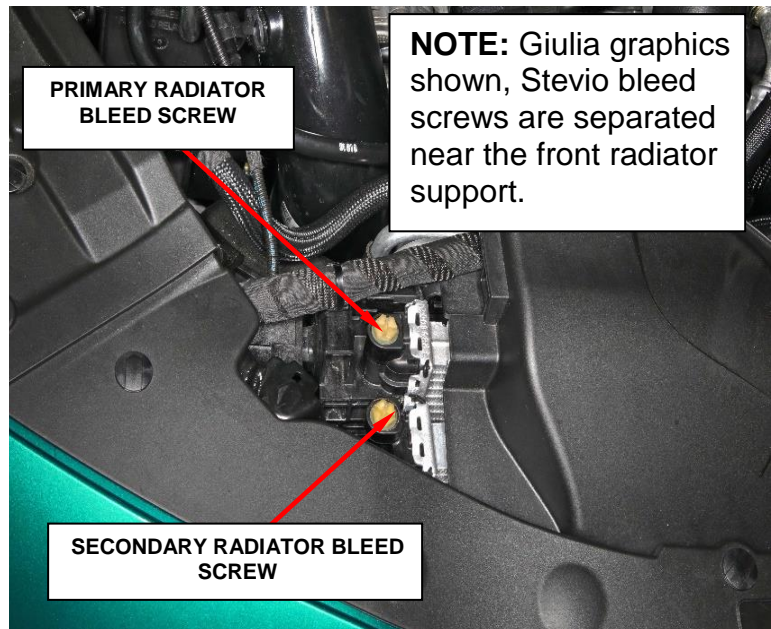

Figure 20 – Cooling System Bleeder Screws
a) Open the bleed screws on the primary and secondary radiators (Figure 20).